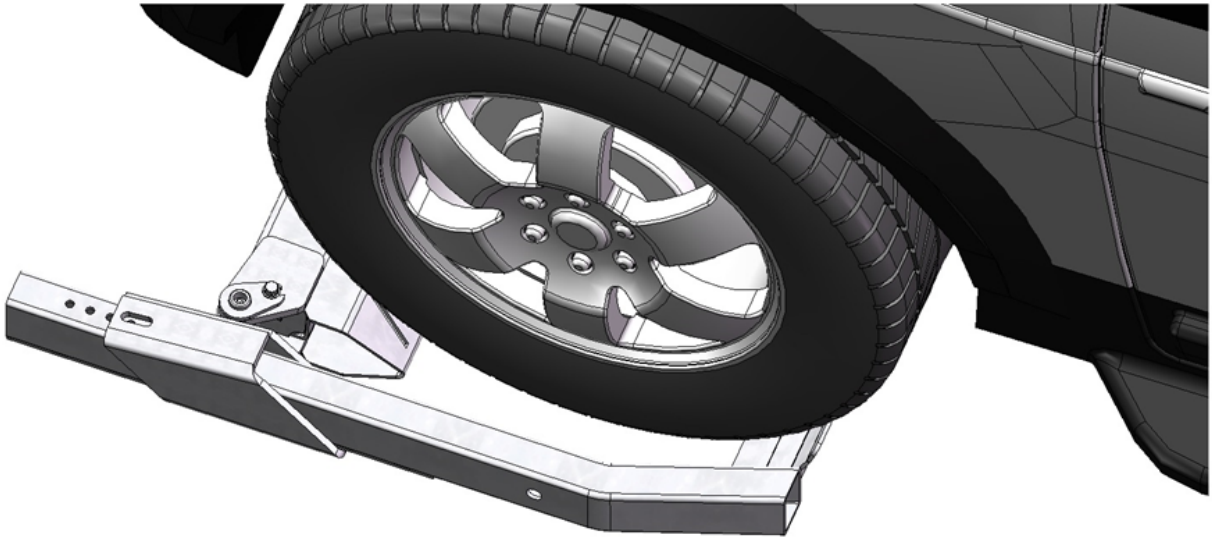

FIGURE 41 – INSERT THE L-ARMS AND RETAINING PINS
4. Insert the wheel lift L-arms into the T-bar by placing them against the rear of the tires and on the outside of the wheels, as shown in Figure 41. Insert the retaining pins. The L-arms may have to be adjusted to line up properly with the holes for the pins.